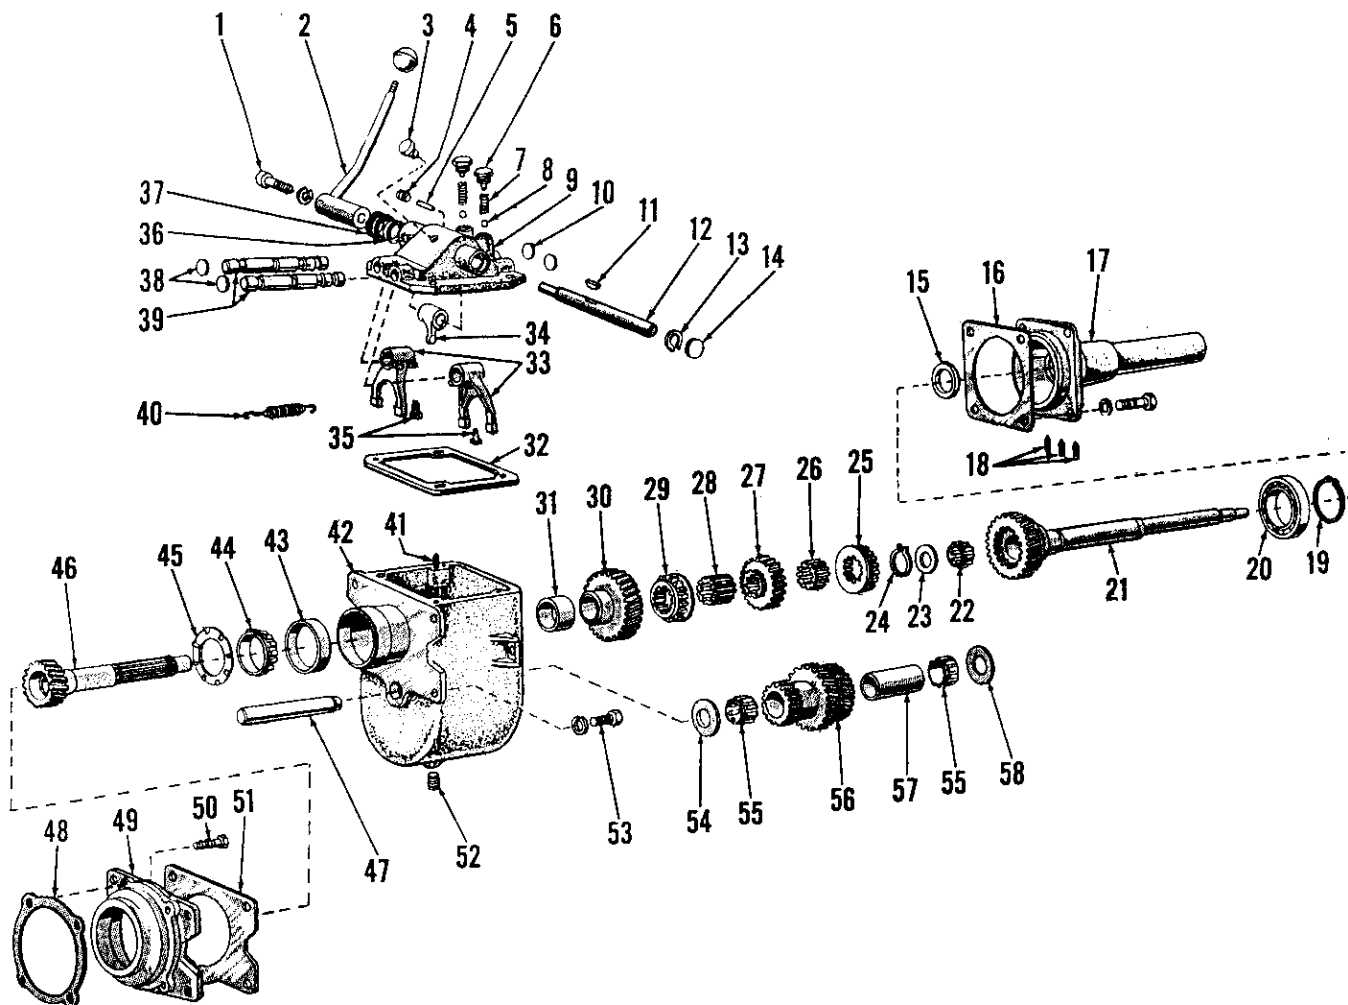

Fig. 182—Exploded view of auxiliary transmission that is available for installation in models with standard shift four-speed transmission.
186. Separate (split) tractor between engine and transmission housing as outlined in paragraph 181. Disconnect the clutch release bearing springs (40—Fig. 182) and remove the bearing. Drain the auxiliary transmission and main transmission. Remove the socket head screw (1) from auxiliary transmission shift lever (2) and remove the lever. Then, unbolt and remove the auxiliary transmission from mounting flange (49) on front of main transmission housing.
187. **SHIFTER RAILS AND FORKS.** To remove shifter rails and forks, the auxiliary transmission must be removed as outlined in paragraph 186. Refer to Fig. 182, remove the retaining cap screws and lift shifter cap assembly (9) from gear case. Remove the two detent caps (6), detent springs (7) and detent balls (8) from shifter cap. Remove lock wires and the drilled head set screws (35) from shifter fingers (forks) (33). Remove the Welch plugs (38) from the shifter rod bores at the rear of the shifter cap, then drive the shifter rods (39) out the front of shifter cap. Remove the set screw (4) from the interlock bore and remove the interlock (5). Remove the snap ring (13) from the groove on the selector shaft (12) and slide the selector fork (34) and snap ring toward the end of the selector
189. **CLUTCH SHAFT.** With tractor separated (split) as in paragraph 181 and the unit drained, the clutch shaft (21—Fig. 182) can be removed by unbolting the support (17) and pulling the support and clutch shaft assembly from the gear case. Remove the roller bearing (22) and the thrust washer (23) from the pilot end of
190. **DRIVE SHAFT.** With the shifter cap assembly removed as in paragraph 187 and the front support and clutch shaft assembly removed as in paragraph 189, refer to Fig. 182 and remove snap ring (24) from drive shaft (46). Then remove front shift collar (25), short spline sleeve (26), step-up gear (27), rear shift collar (29), long spline sleeve (28), step-down gear (30) and spacer (31) from drive shaft. NOTE. Identify shift collars (25 and 29) so they can be reinstalled in their proper positions. Pull the drive shaft,
192. **CLUSTER GEAR AND SHAFT.** Remove the drive shaft assembly as outlined in paragraph 190. Refer to Fig. 182 and drift the cluster shaft (47) out toward rear of gear case and catch cluster gear (56) and thrust